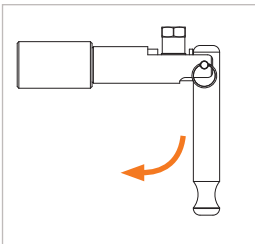

Figure 4
- ▶ Actuate the clamping lever (Pos. 2) by 90° downwards (*Figure 4*). The connector tightens itself to the test piece and creates a pressure-tight connection.